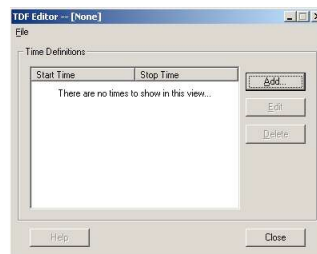

Figure 109: TDF Editor
- Click the “Add” button on the TDF Editor Screen to add time pairs (see *Figure 109*).